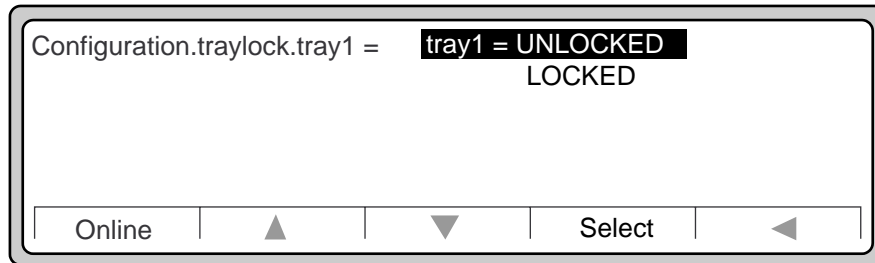

Figure 3-29 Configuration.traylock.tray1
7. For example, if you want to lock tray1, press ► to select tray1. (See the screen in Figure 3-29.)